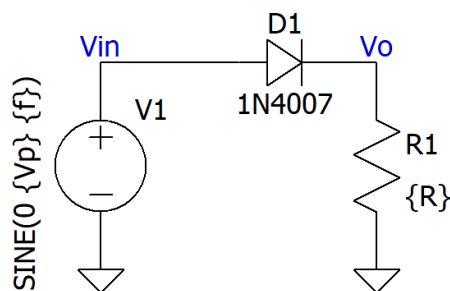

Figure 3.1 HWR with resistive load
1. Connect the Circuit as shown in Figure 3.1.